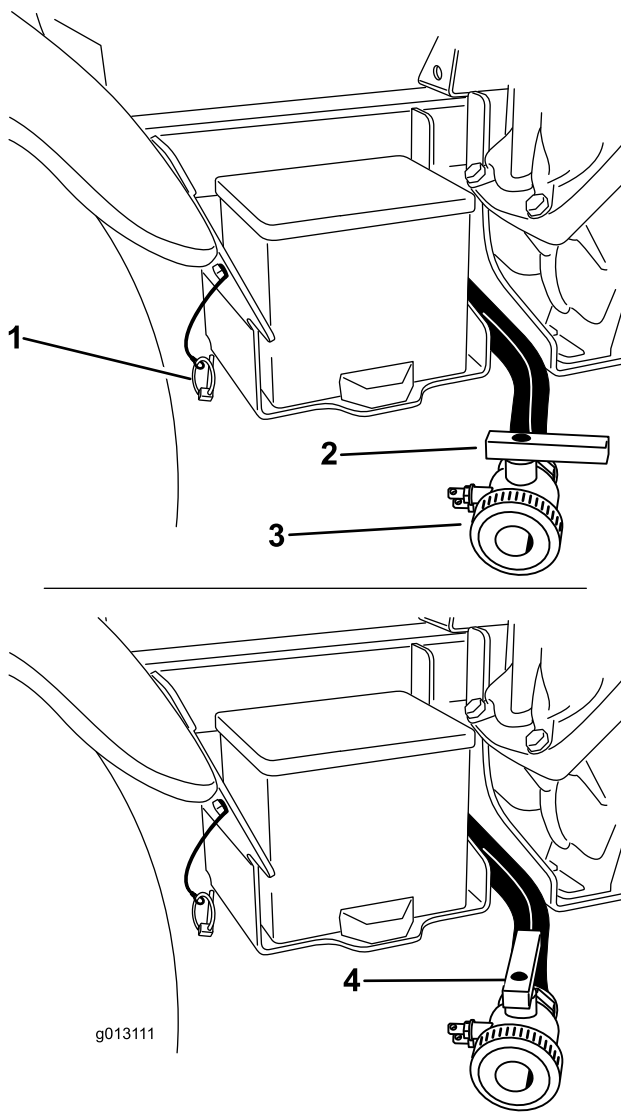

Figure 28
- B. Open the valve to drain any unused material from the tank and dispose of it according to local codes and the material manufacturer's instructions (Figure 28). This allows any residual material in the line to drain.
3. When the tank has drained completely, close the drain valve and install the valve to bracket with the lynch pin removed previously (Figure 28).